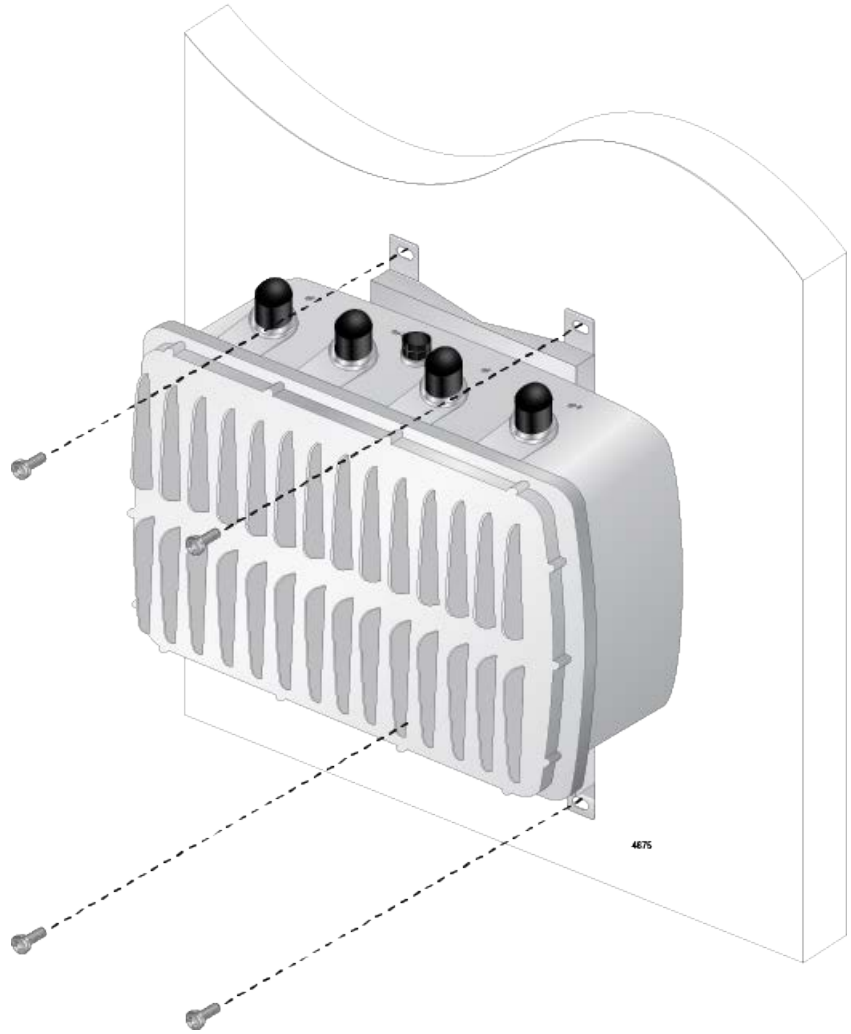

Figure 29. Attaching the Access Point to the Wall
7. Attach the access point to the wall with the provided screws, using a Phillips-head screwdriver. See Figure 29 on page 47.